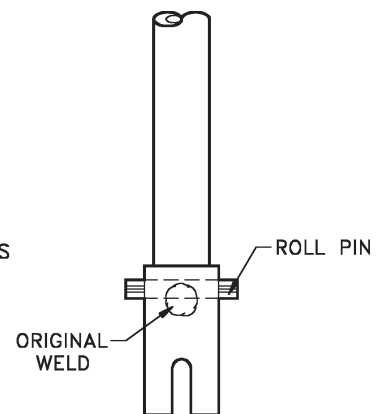

FIGURE 4
- B. An acceptable alternative to re-welding the shaft is to install a 1/8 X 3/4 Roll Pin, part number E00-5101. Do not trim off the protruding ends of the pin. (See Figure 4 below.)